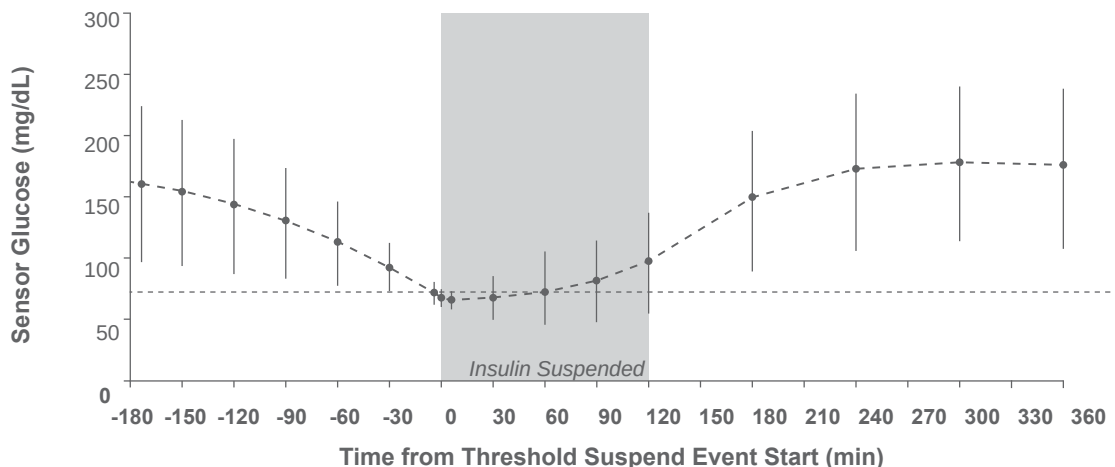

Figure 4 - Sensor Glucose Values for Two-Hour Threshold Suspend Events at Night.
- On average, SG was about 120 mg/dL at one hour before the TS alarm was triggered and remained below 70 mg/dL for the first hour after the TS alarm was triggered (**Figure 4**). The number (N) associated with **Figure 4** is provided in **Table 10**.
Table 10 - Number (N) Associated With **Figure 4**.